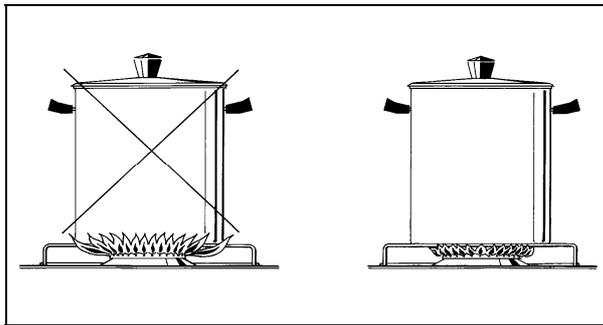

Fig.14
- Use suitable pots for each burner (see Fig. 14 and Table B)